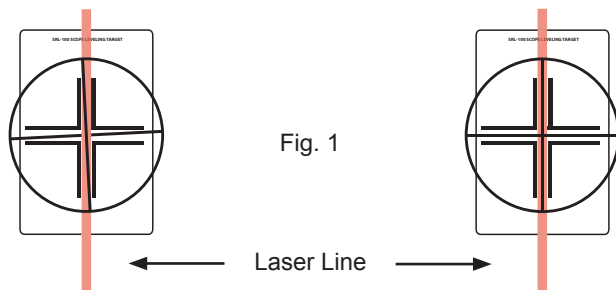

Fig. 1
7. Rotate the scope & adjust the windage to align the crosshair with the laser line. (Fig. 1)